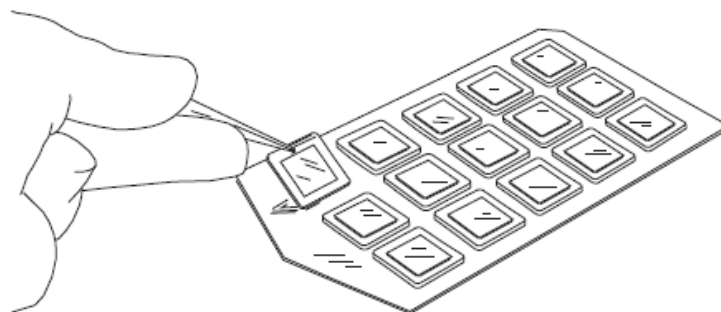

Figure 3
3. Using sterile forceps, lift individual SecureSlips by the silicone backing as shown in Figure 3. Lift *slowly*, allowing time for silicone to release. Pull at an angle close to the plastic carrier.